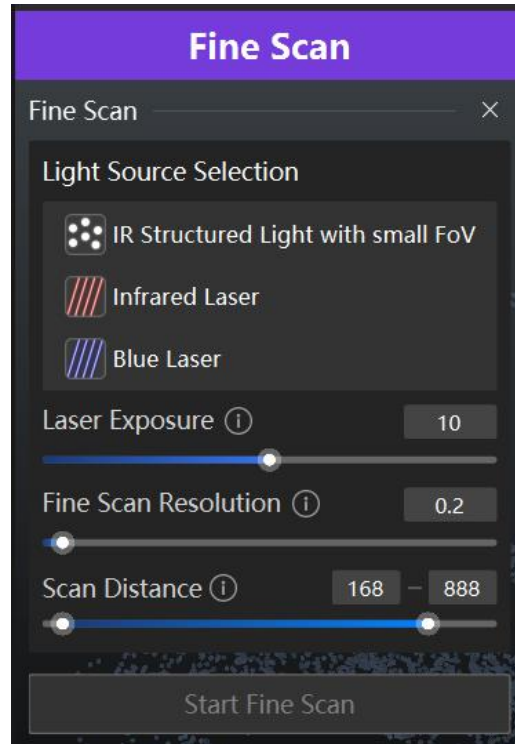

Figure 7-23 Parameters of Fine Scan
2. Click  in the menu bar. Adjust the light source and fine scan resolution to enhance local data accuracy, as shown in Figure 7-23.